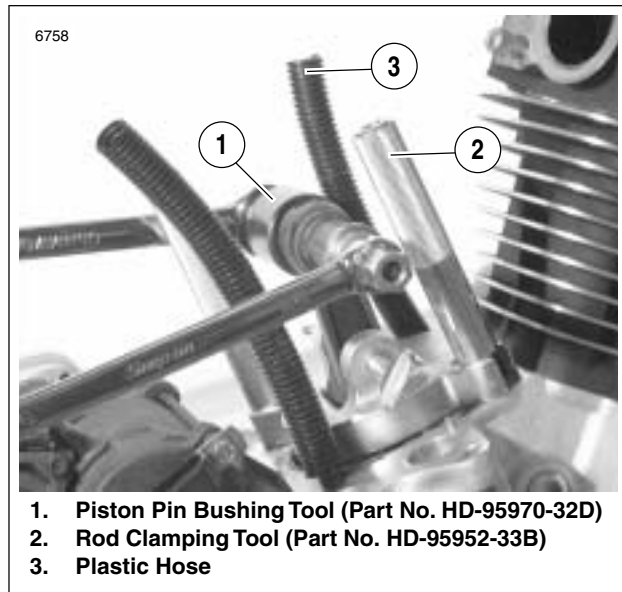

Figure 3-40. Installing New Piston Pin Bushing
1. See Figure 3-40. Install plastic hoses (3) over studs.
2. Secure connecting rod with CONNECTING ROD CLAMPING TOOL (2) (Part No. HD-95952-33B).